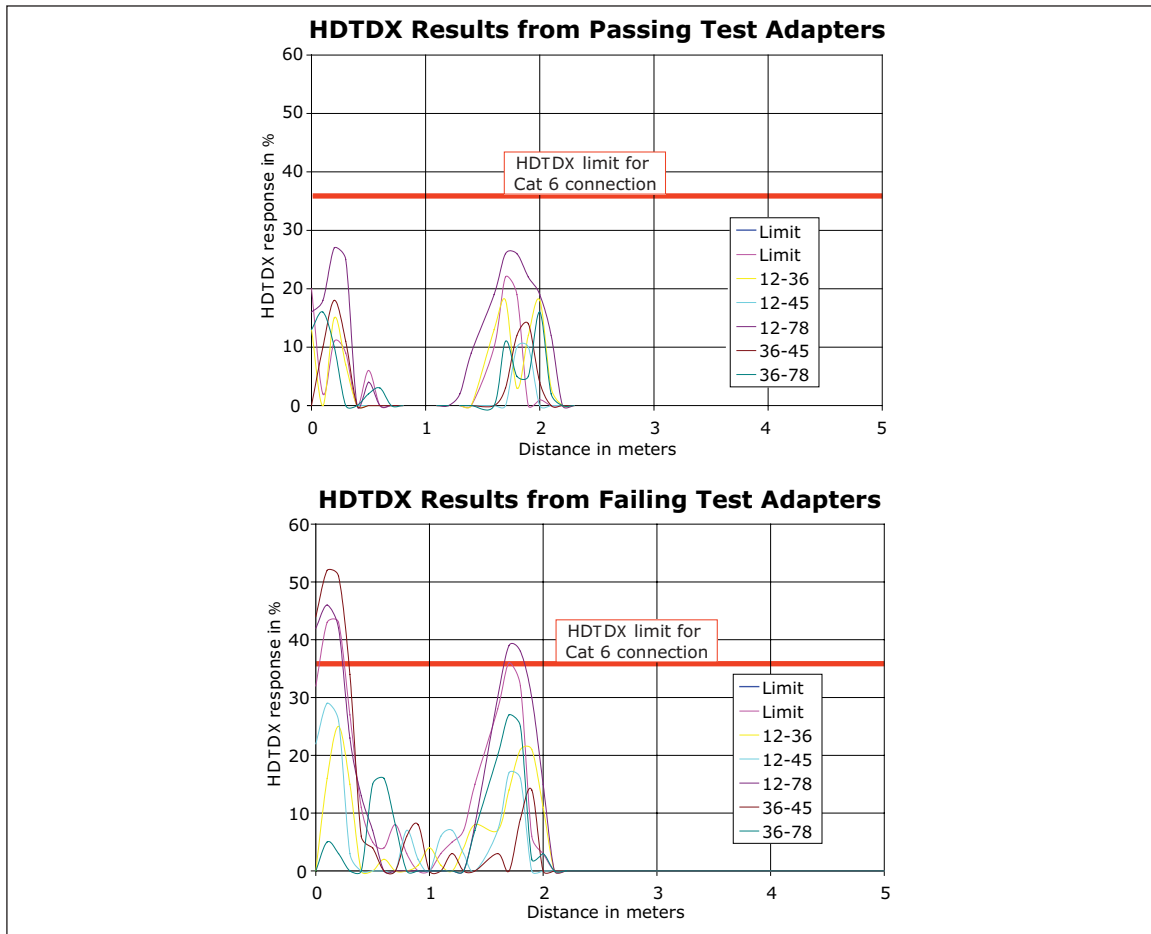

Figure 11. Examples of HDTDx Results for Passing and Failing DSP-PCI Adapters
5. Verify that the HDTDx responses for the main and remote adapter connectors are 36 % or less. Figure 11 shows examples of passing and failing test adapters.